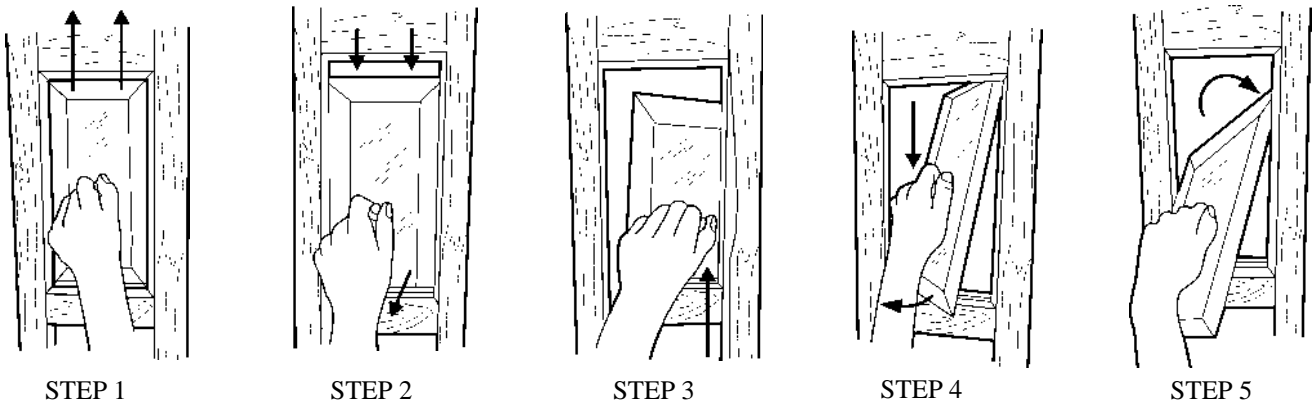

Figure 1
## **STEP 1 UNPACKING YOUR CLOCK** (Figure 1, 2, & 3)
B. The clock only needs to be "sight" level to operate correctly. We have placed an adjustable leveling foot on each corner to help you level the clock. (Figure 1)